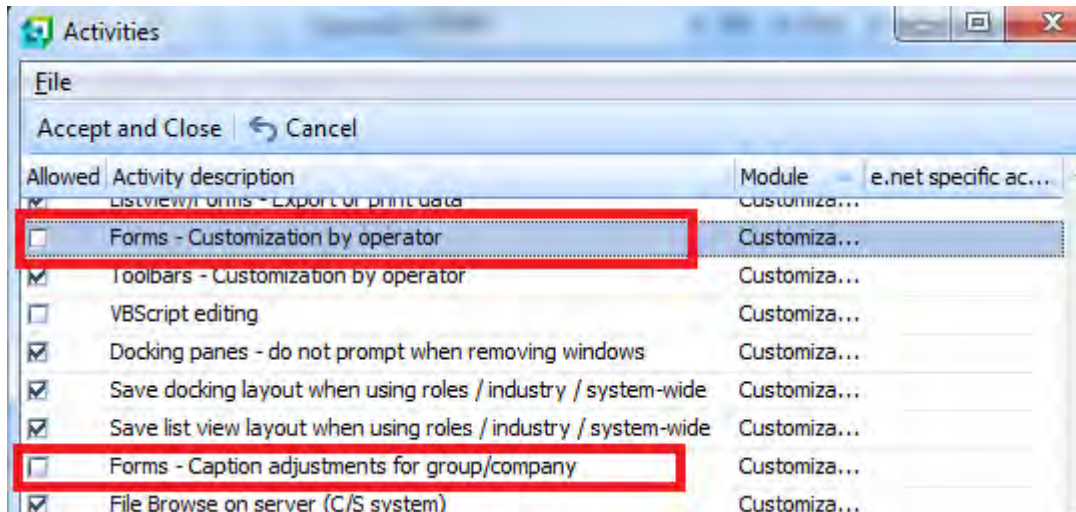

Figure 21-28: The two operator activities that disable the *Add Custom Columns* option
- the operator is denied access by either of these two security options being unchecked (see **Figure 21-28**):